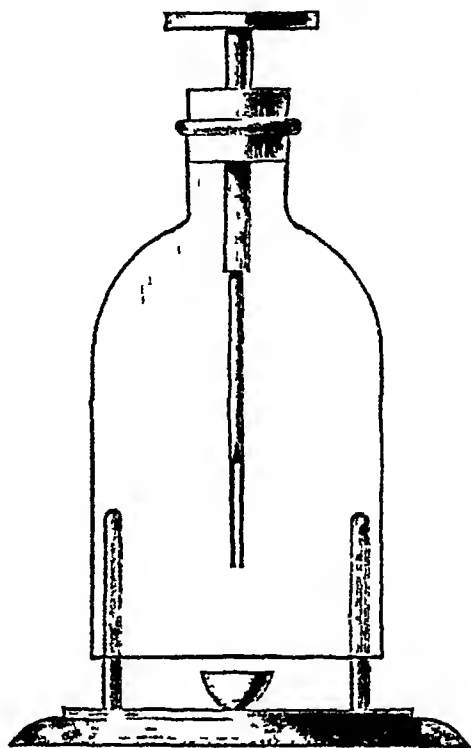

FIG 161
**The Gold-leaf Electroscope** — A bell-jar is fitted with a good india-rubber cork (fig 161), through the centre of which, passes a glass tube, the tube being filled with shellac, the shellac is melted, and a thick copper or brass wire pushed through. To the top of the wire a circular piece of brass or copper (a smooth penny) is soldered, the other end is flattened. The bell-jar fits into a circular groove in a board that should be covered with tin-foil, or